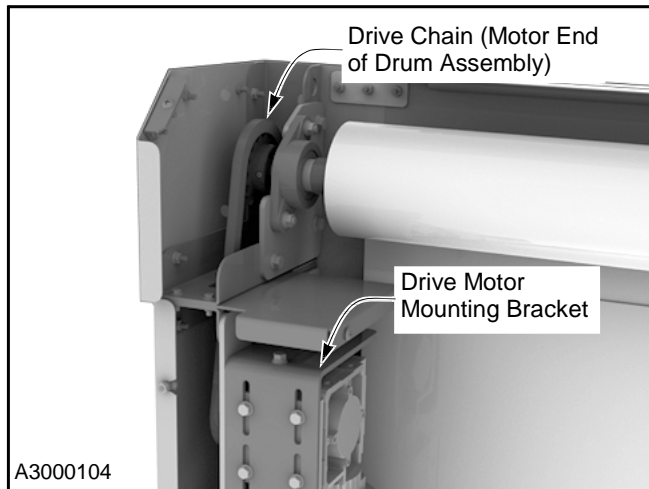

Figure 20
1. Install the drive chain around the drive motor and drum/fabric roll sprockets. The ends of the chain are joined together with a master link included with the chain. Make sure the master link is fully locked. The drive chain and master link were packed for shipping in the small parts carton. (See Figure 20.)